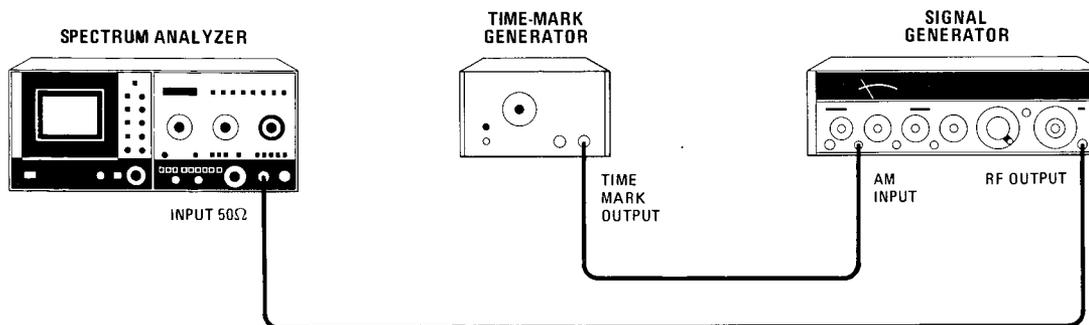

Figure 4-21. Sweep Time Accuracy Test Setup
- c. Connect equipment as shown in Figure 4-21 leaving 8640B AM switch in OFF position.